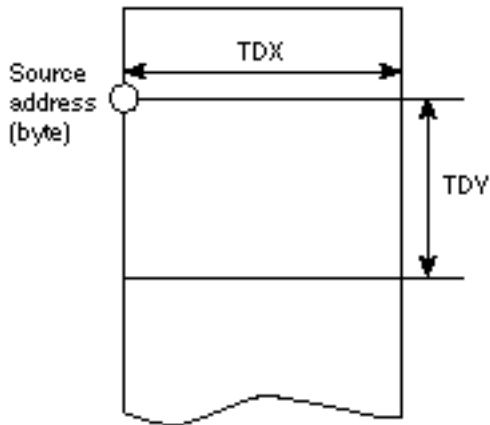

**Figure 4.3 Multi-Valued Source Coordinates (LNi = 0)**
**Multi-Valued Source Coordinates:** The Q2SD can use two kinds of multi-valued source coordinates according to the value of linear attribute LNi. When LNi = 0, the coordinate origin is specified by the multi-valued source area start address. Figure 4.3 shows the multi-valued source coordinates when LNi = 0. As shown in this figure, the maximum coordinate system size is represented by 1024 × 1024 positive coordinates, but the size depends on the installed memory capacity, screen size, and multi-valued source area start address. Depending on the multi-valued source start address, this coordinate system may entirely or partially overlap another coordinate system.